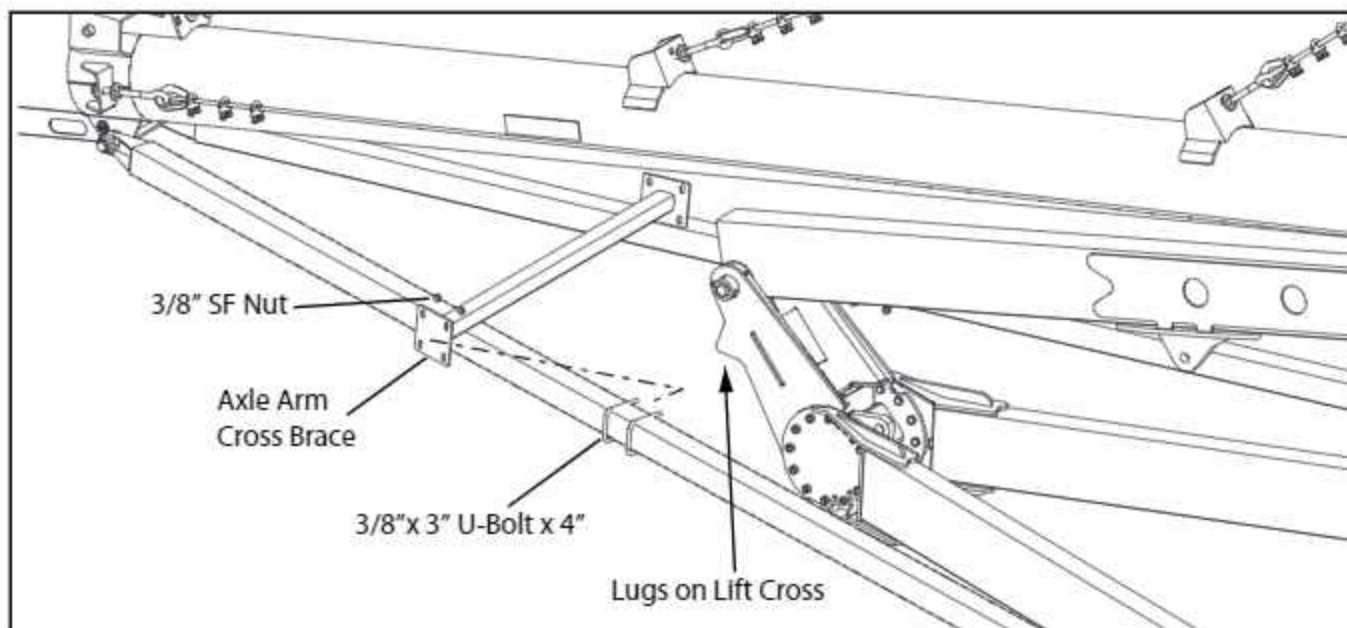

FIG. 3-22. Installing the Axle Frame Cross Brace
8. Install the Axle Arm Cross Brace between the Axle Arms using four $\frac{3}{8}$ "x 3" U-bolts and eight flange lock nuts. Do not tighten the nuts at this time. Position the Cross Brace so the lugs on the back of the Lift Cross will rest on the Cross Brace. See Fig. 3-22.